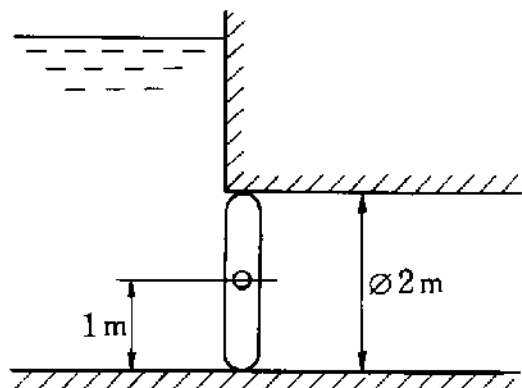

Fig. 3.28
9. As shown in Fig. 3.28, a circular water gate, diameter 2 m, is supported by a horizontal shaft. What is the moment around the shaft to keep the water gate closed?